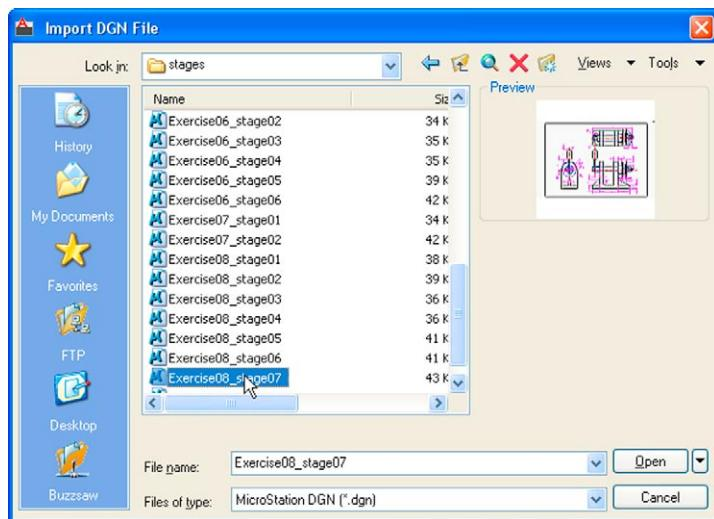
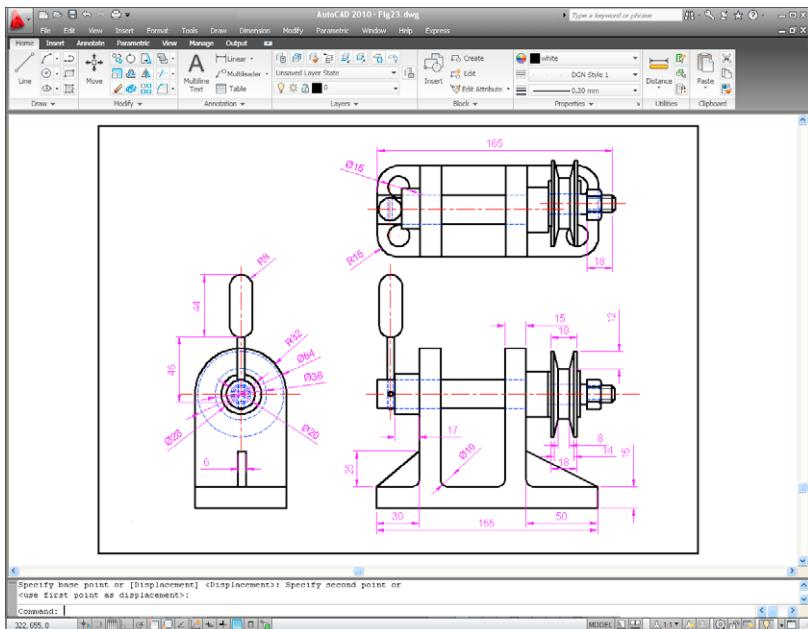

Fig. 10.21 The Import DGN File dialog
Fig. 10.22 The *.dgn file imported into AutoCAD 2011
2. In AutoCAD 2011 at the command line enter **dgnimport**. The dialog Fig. 10.21 appears on screen from which the required drawing file name can be selected. When the **Open** button of the dialog is *clicked* a warning window appears informing the operator of steps to take in order to load the drawing. When completed the drawing loads Fig. 10.22).